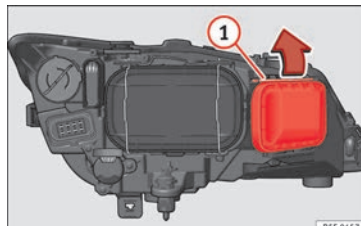

Fig. 105 Turn signal bulb.
- Move the loop »» Fig. 105 ① in the direction of the arrow and remove the cover.